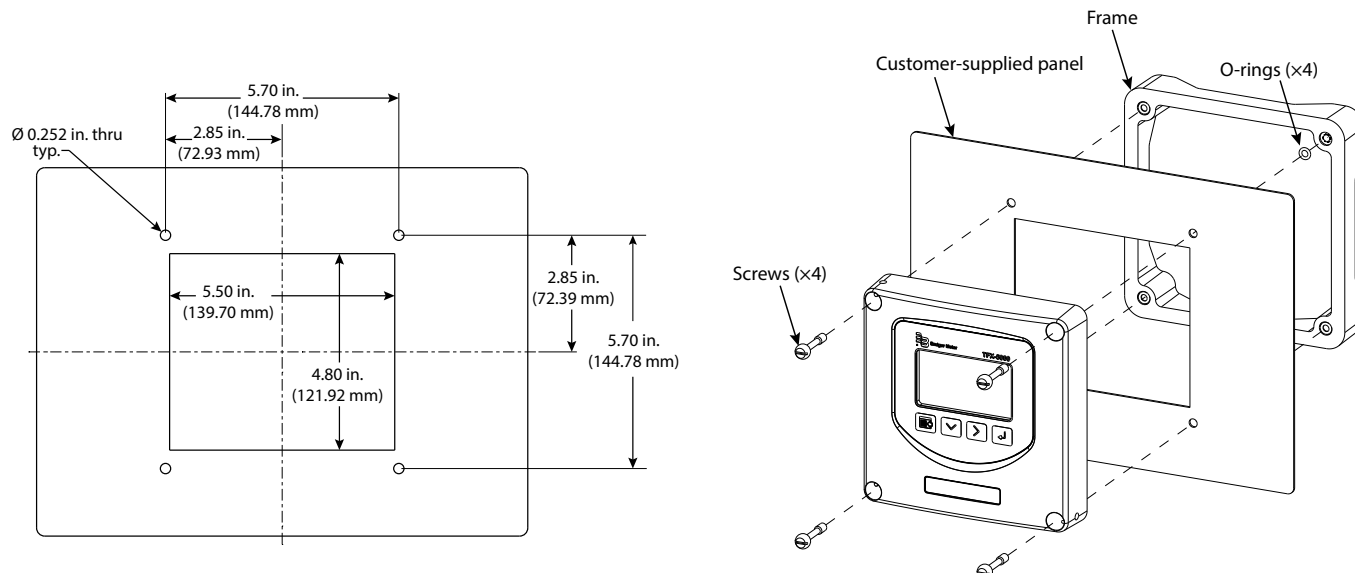

Figure 21: Panel cutout dimensions and installation exploded view
- Measure and cut a mounting hole into the customer-supplied panel to the dimensions shown in *Figure 21*.